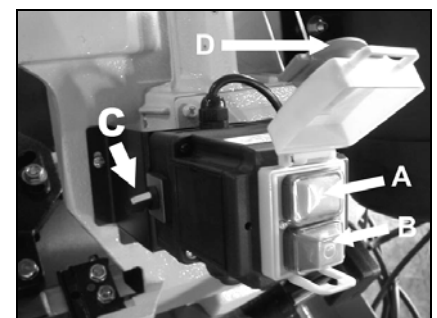

Fig 5
You can start the machine with the green on button (A, Fig 5). The red button (B) on the switch box stops the machine.